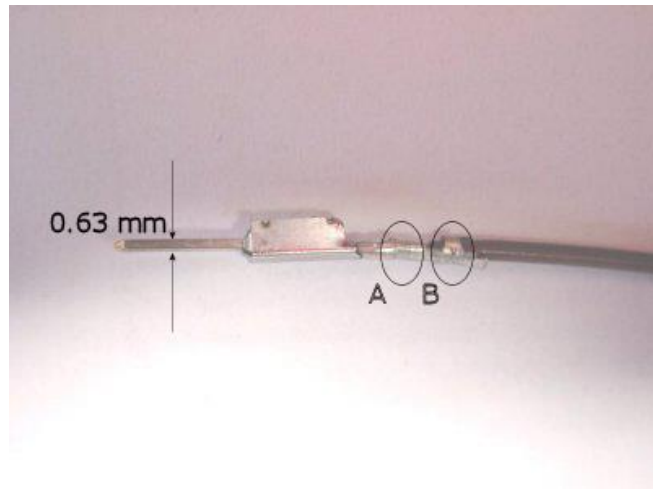

Figure 1. The male pin must be 0.63 mm in width. The pin and terminal must be crimped onto the wire (A) and crimped again onto the wire sheathing (B).
- Pin/terminal must be crimped onto the wire (Figure 1, A).
- Pin/terminal must be crimped onto the wire sheathing (Figure 1, B).